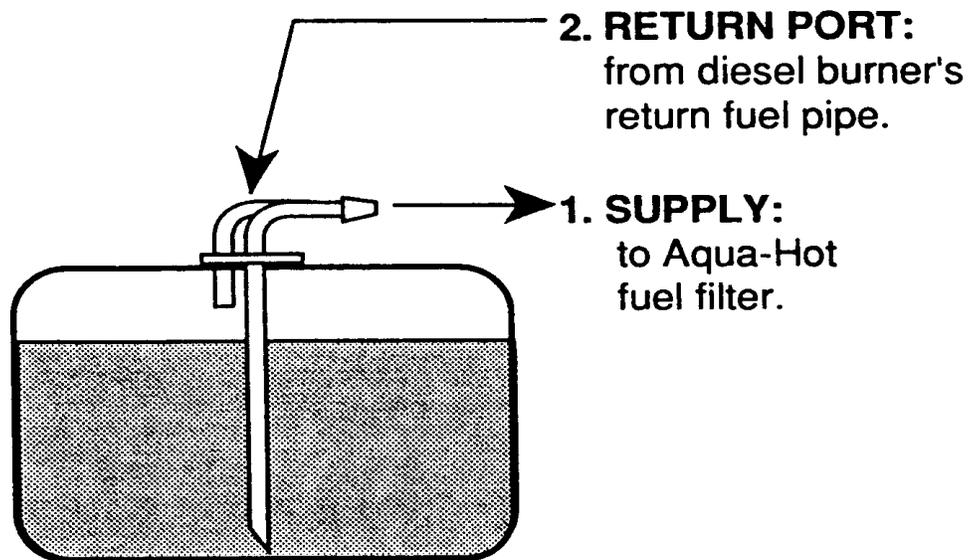

Figure 21
- A. The fuel supply can be drawn directly from the main fuel tank (only if diesel) or from a separate fuel tank. The tank should be equipped with a pick-up stand pipe and return port dedicated for the diesel burner, see Figure 21.